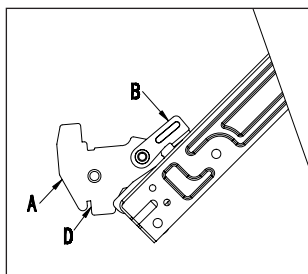

Fig.1
- › Open the door completely and lift the 2 levers "B" (Fig.1);